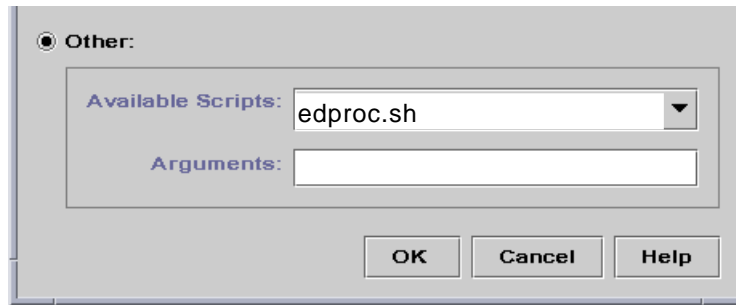

FIGURE 4-11 Critical Action Field Specifying a Script
- ii. Select the script from the Available Scripts pull-down menu (FIGURE 4-11).